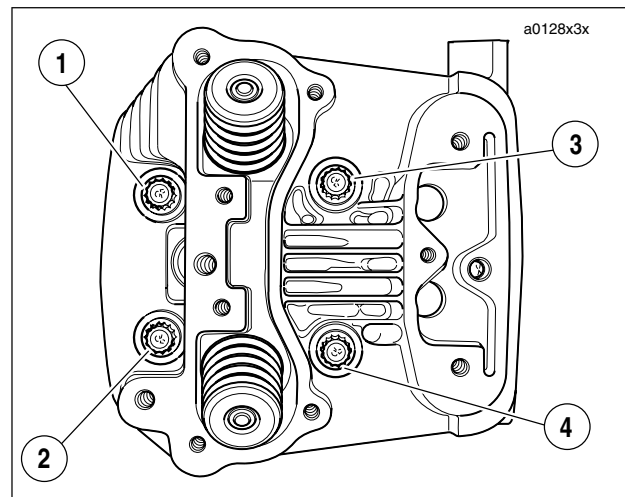

Figure 3-45. Head Screw Loosening/Tightening Sequence
Distortion to the head, cylinder and crankcase studs may result if head screws are not loosened (or tightened) gradually in the sequence shown in Figure 3-45.
12. See Figure 3-45. Loosen each head screw 1/8-turn following the sequence shown.